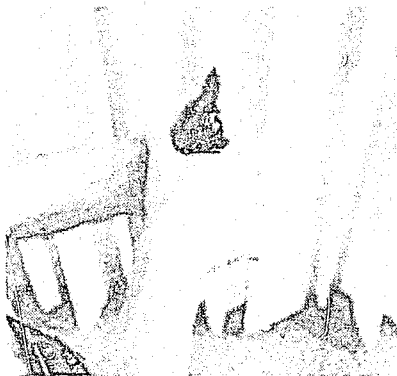

Figure 6-6
- a. Place the webbing of the hand (between thumb and index finger) as high on the frame as you can. Cover the top of the back strap. This will aid you in controlling the weapon. This is the critical part of the grip since the position of your hand at this stage will determine where other parts of your hand will fall in the grip. (See Figures 6-6 and 6-7)